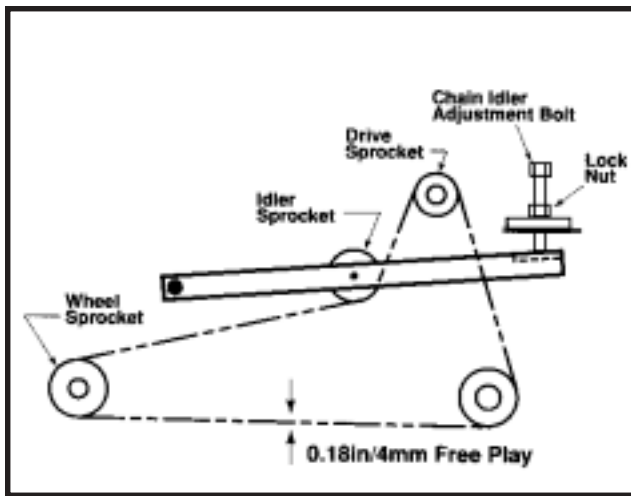

Figure 14
6. Install new chain from top (drive sprocket side) and route in accordance with Figure 14.
3. Turn idler adjustment bolt to adjust tension to allow 1/8" to 1/4" movement at the center point between the wheel sprocket and the rotor sprocket (see Figures 14 and 15).